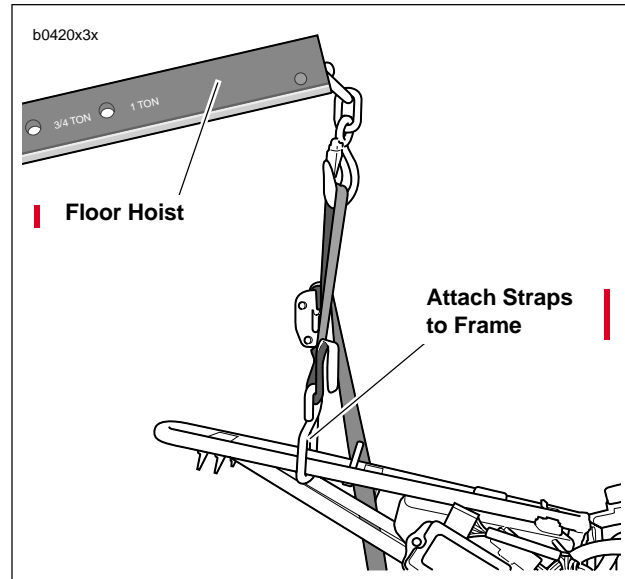

Figure 3-1. Floor Hoist (Typical)
3. See Figure 3-1. Place a floor hoist behind the lift. Attach straps to frame and hoist. Raise hoist until straps tighten.